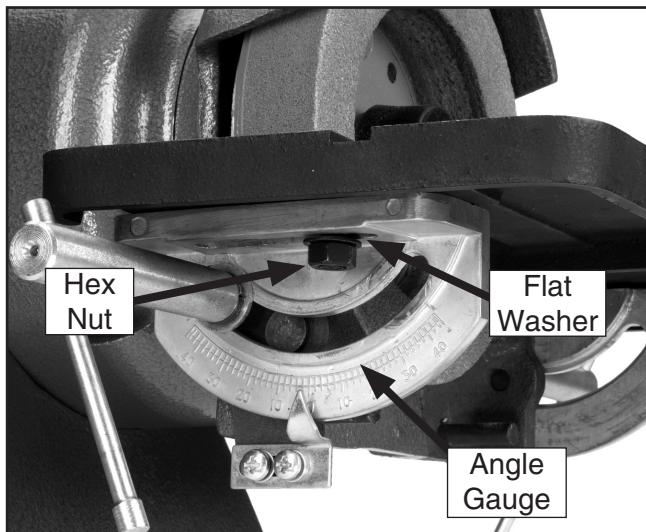

Figure 7. Work table attachment.
7. Fasten the table to the support dials using an 8mm flat washer and a hex nut on each bolt, as shown in **Figure 7**.